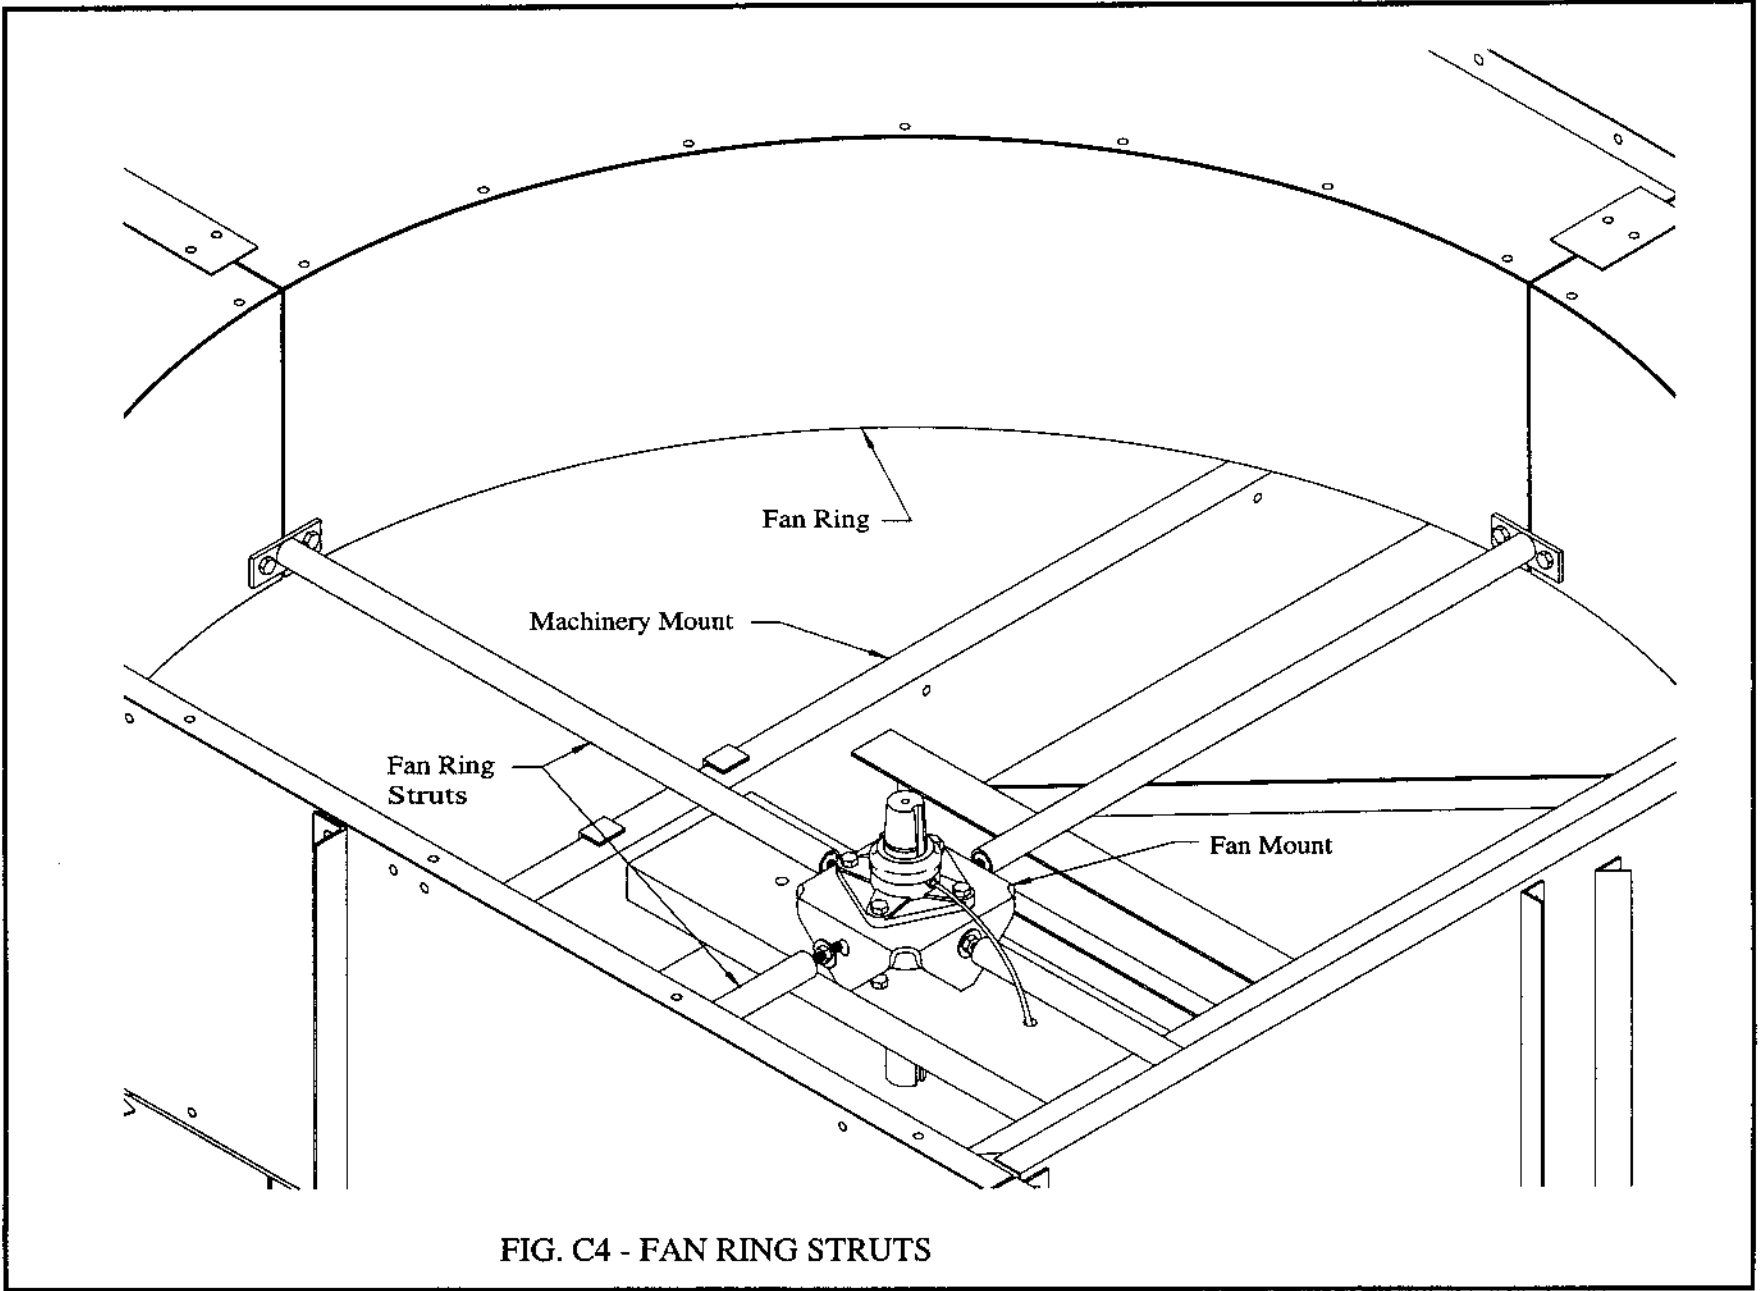

FIG. C4 - FAN RING STRUTS
5. Install fan ring struts. See Fig. C4.